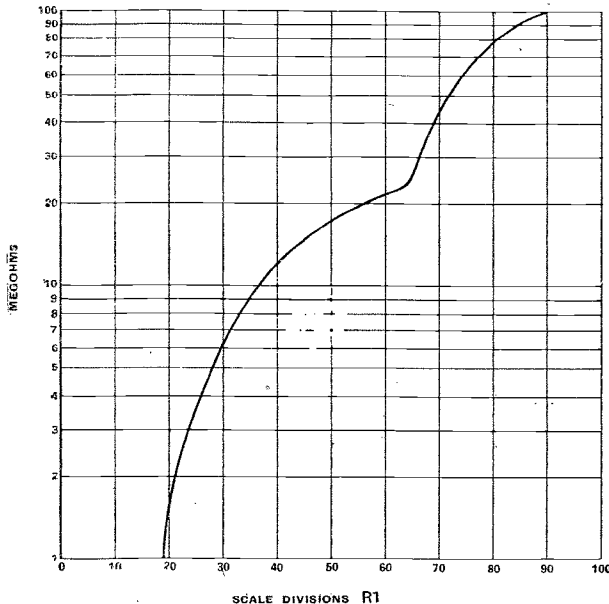

Fig. 2. Calibration curve of the author's instrument.
a shadow angle of about 20° should be obtained, corresponding to a grid potential of $-8V$. The insulation resistance to be tested is then connected across the terminals AB and the resistance R_1 increased until a shadow angle of 45° , corresponding to a grid potential of about $-4V$, is obtained. The setting of the resistance is then noted and the insulation resistance obtained from the calibration curve. The calibration for the author's instrument is shown in Fig. 2. It will be noted that the "law" of the resistance used is only very approximately exponential; the resistance element is actually made up of two linear portions. The calibration will vary if different components are used, and it is best to carry out an individual calibration in each case. If the characteristic curve of the tuning indicator is available an approximate calibration may be obtained by measuring the value of the resistance R_1 at various settings and by making use of equation (1). It is better, however, to connect high resistances of known value across the terminals A B and to determine the setting of R_1 to give a shadow angle of 45° .